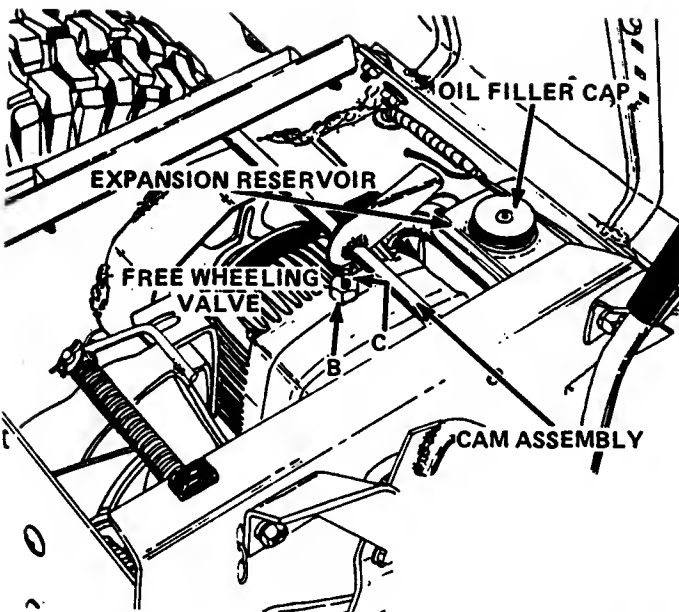

Figure 21
1. Thoroughly clean all dust, dirt and grime from the free-wheeling valve, the oil filler cap and surrounding areas, Figure 21.
3. Loosen nut B first end then valve actuating rod C, Figure 21, and remove the rod. Be extremely careful not to allow dirt to enter the transmission.
7. Replace free-wheeling valve actuating rod C and tighten nut B, Figure 21, to 30 inch-pounds. Tighten both parts carefully to prevent the small rubber o-rings inside the cap from becoming damaged.